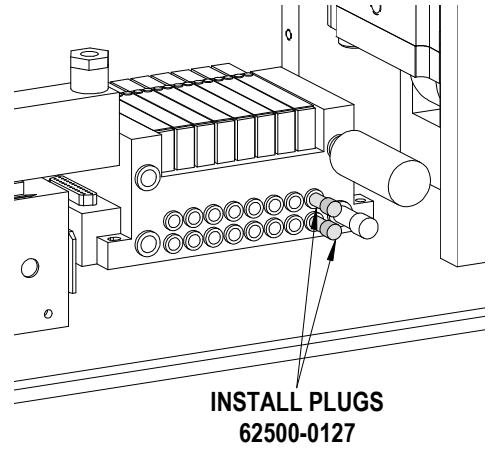

Figure 4-5 (With Cover removed)
1. Remove the two (2) tubes (that went to the breakoff station) from the valve bank.
2. Install two (2) plugs in the right hand ports as shown in Figure 4-5 (where the tubes were just removed).